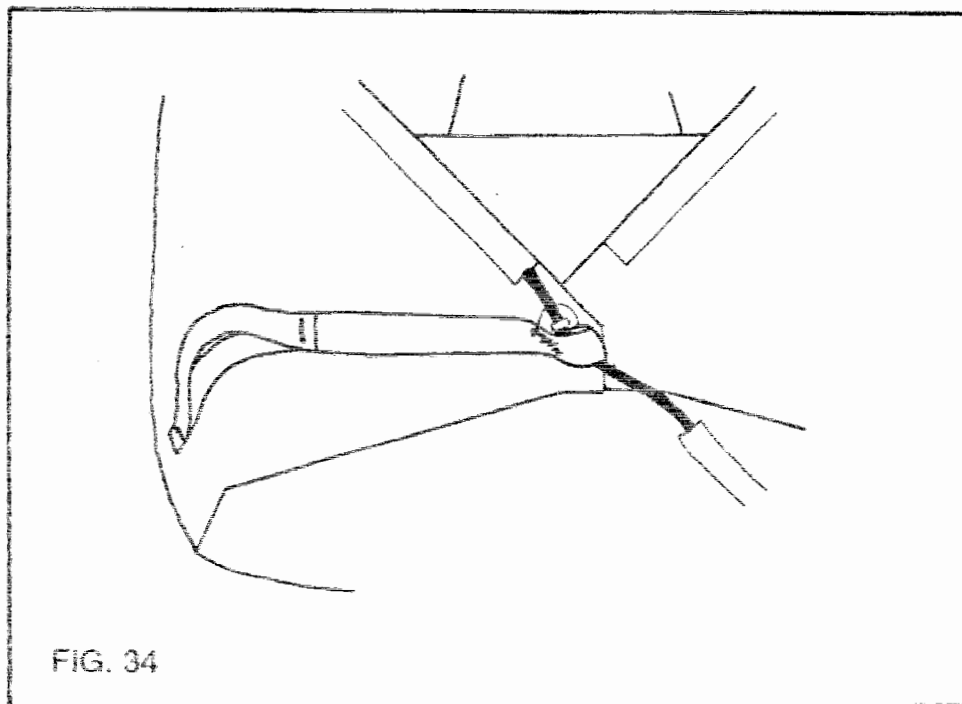

FIG. 34
2) After closing all container flaps with the pullup cord (left side flap *last*), pass the ripcord thru the small loop in the end of the Left Yank then close the container as shown in FIG. 34. (The Left Yank can be used whether the ripcord is in ROL or BOC position.) Close the pin cover and wrap its end down around the main top flap, mating the velcro.